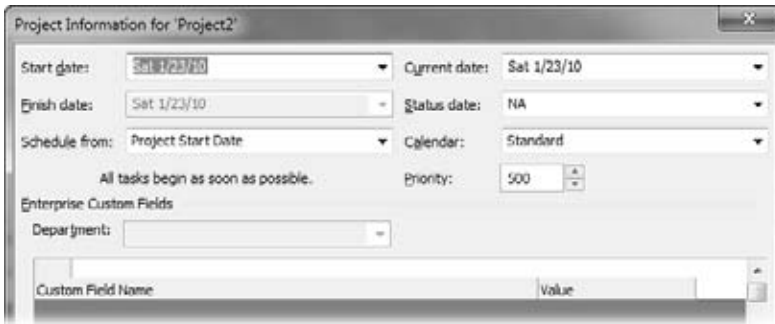

Figure 6-5:
The Project Information dialog box opens. If you created the file from scratch, Project sets the date in the “Start date” box to today’s date, as shown in Figure 6-5. For templates or existing projects, the project starts on the existing date set in the “Start date” box.
2. In the Calendar box, shown in Figure 6-5, choose the calendar you want, whether it’s a built-in calendar or one you’ve customized (page 238), and then click OK.